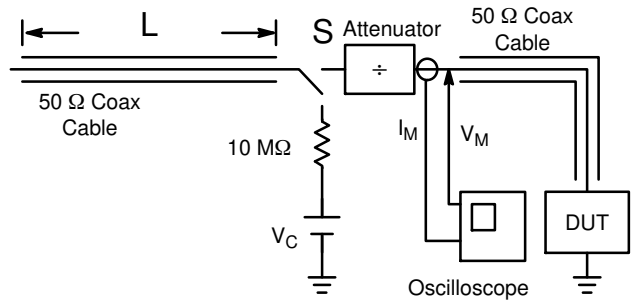
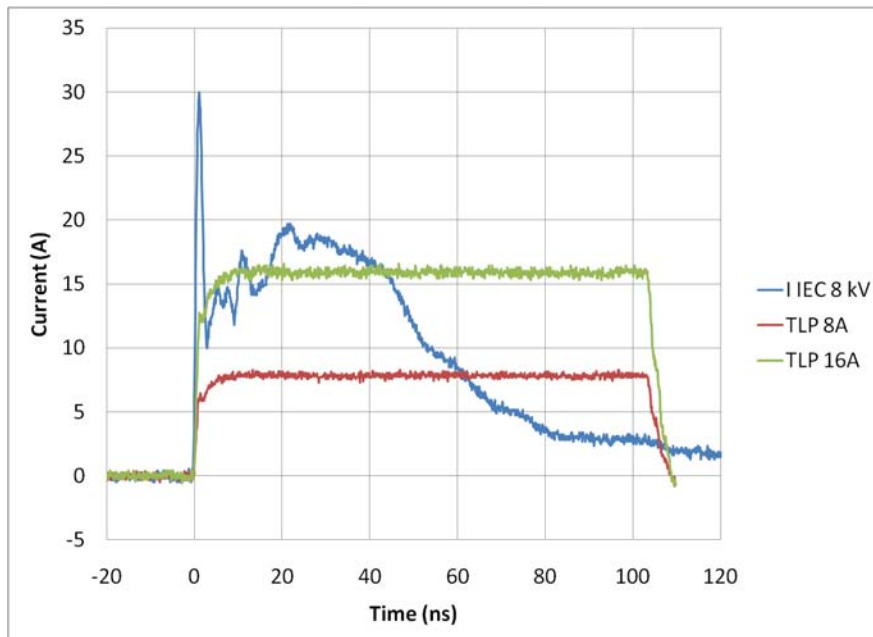

Figure 8. Simplified Schematic of a Typical TLP System
Figure 9. Comparison Between 8 kV IEC 61000-4-2 and 8 A and 16 A TLP Waveforms
- Non-repetitive current pulse at $T_A = 25^\circ\text{C}$, per IEC61000-4-5 waveform shown in Figure 9.
Transmission Line Pulse (TLP) provides current versus voltage (I-V) curves in which each data point is obtained from a 100 ns long rectangular pulse from a charged transmission line. A simplified schematic of a typical TLP system is shown in Figure 8. TLP I-V curves of ESD protection devices accurately demonstrate the product's ESD capability because the 10s of amps current levels and under 100 ns time scale match those of an ESD event. This is illustrated in Figure 9 where an 8 kV IEC 61000-4-2 current waveform is compared with TLP current pulses at 8 A and 16 A. A TLP I-V curve shows the voltage at which the device turns on as well as how well the device clamps voltage over a range of current levels.